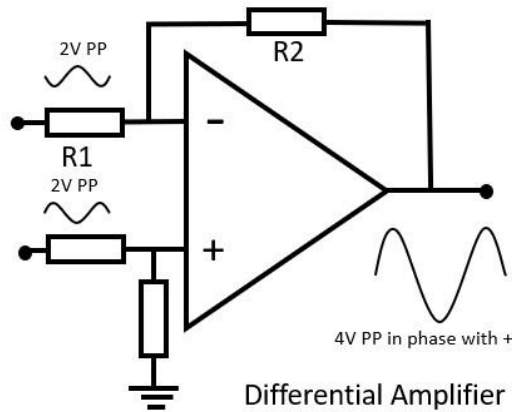

Figure 6: Differential amplifier.
5. **The Differential amplifier** is a circuit that amplifies the difference between two input voltages but suppresses any voltage common to the two inputs. The circuit has two inputs, and the output is proportional to the difference between the two voltages (Figure 6).